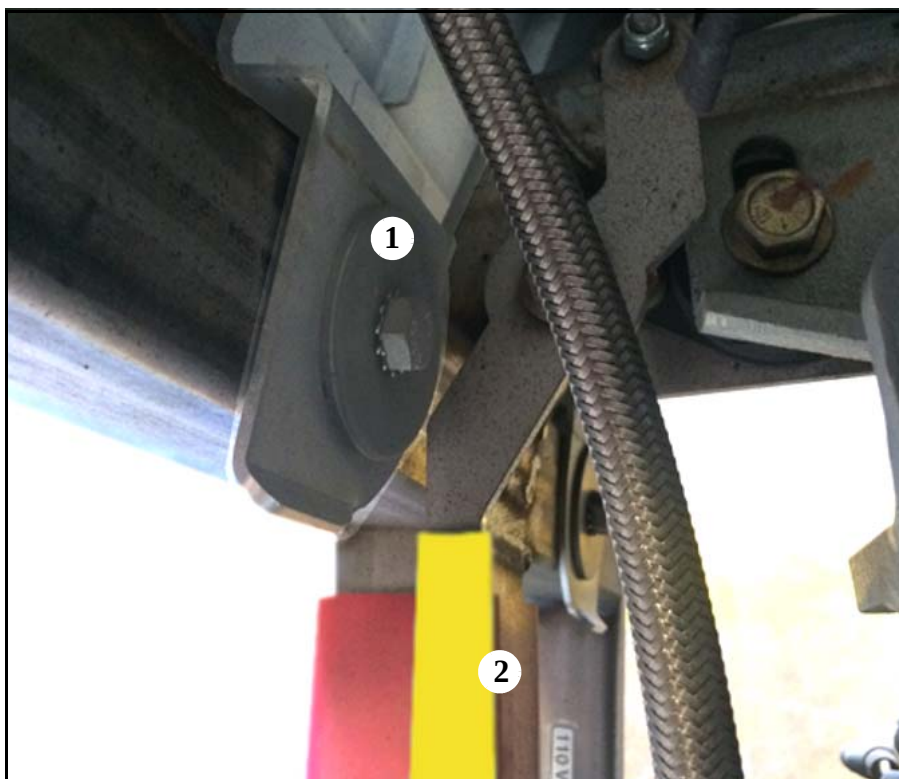

Figure 22. Line of sight view looking straight down positioned at the curbside, rear side service compartment.
56. Remove and retain the rear bumper mounting hardware (refer to Figures 22 and 23). Carefully remove the bumper and place aside to be re-installed at a later step in this procedure. Using a marker and tape, label the rear bumper mounting hardware for re-installation.
Item	Figure 22 Description
2	Four (4) bolts. Refer to item 1 / Figure 22.